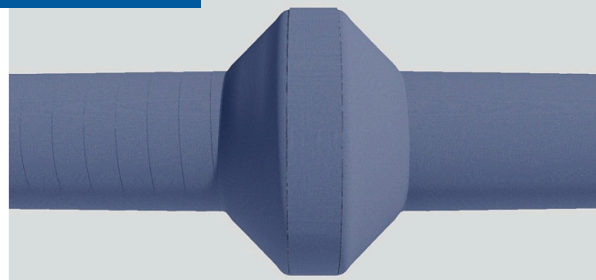

FIG 5
- Wrap one layer of Viscowrap material along the circumference of the flange. (Fig 5).